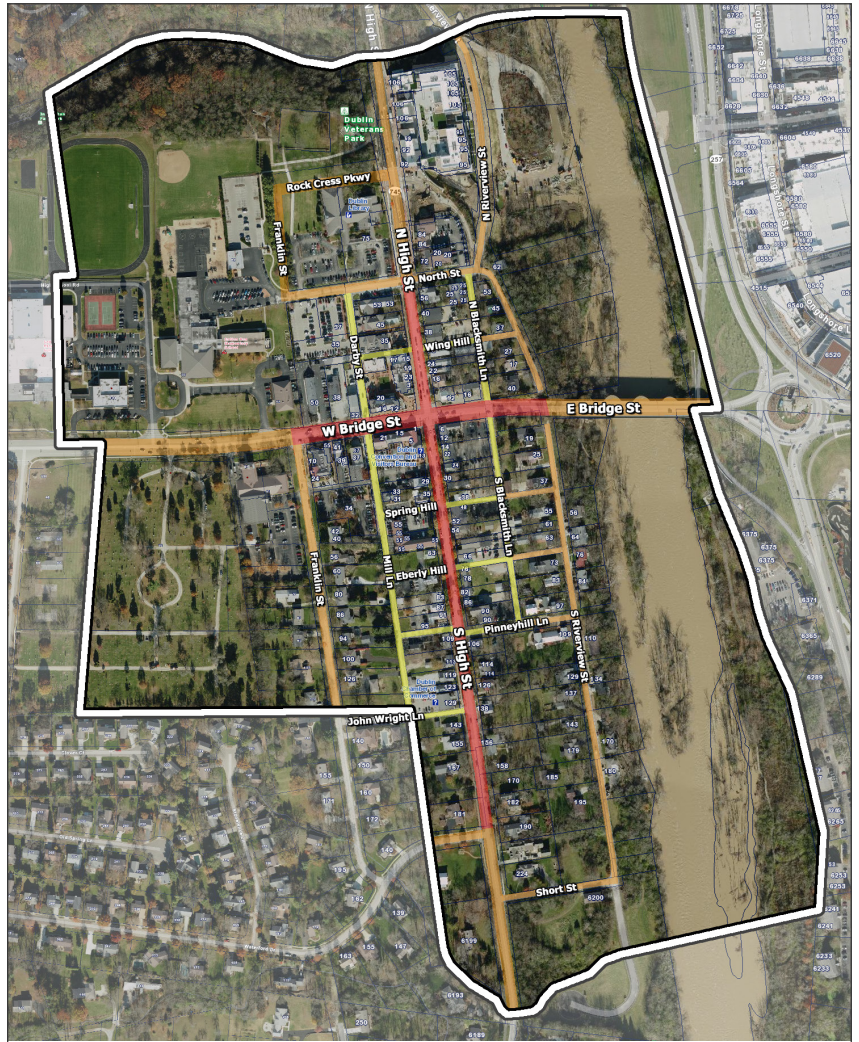

Figure 5.1A--Historic Dublin Boundary and Small Cell Facilities Siting Preferences Map
- Preferred rights-of-way for siting of small cell facilities and wireless support structures include Blacksmith Lane, Mill Lane, Darby Street, Wing Hill, Spring Hill, Eberly Hill, Pinneyhill Lane, and John Wright Lane, except for segments of these streets which extend to the east of South and North Blacksmith Lane. The preferred streets are highlighted in yellow in Figure 5.1A.
- These corridors are highlighted in orange in Figure 5.1A, and are character defining elements of Historic Dublin. These streets are the 'front doors' to businesses and residences and possess a strong pedestrian environment that should be free of visual clutter along the streetscapes to the maximum extent possible.
- The Bridge and High Street intersection boundary is defined as the right-of-way of these streets bound by Franklin Street to the west, North and South Riverview to the east, North Street to the North and Waterford Drive to the south, as highlighted in red in Figure 5.1A.